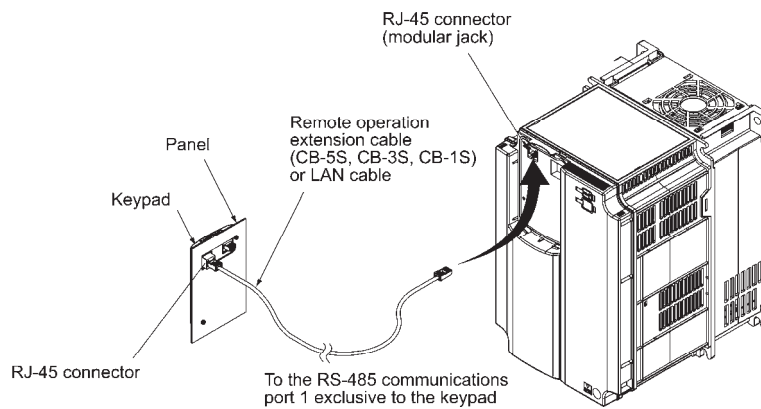

Figure 2.3-8 Connecting the Keypad to the Inverter with Remote Operation Extension Cable or an Off-the-shelf LAN Cable
(3) Using a remote operation extension cable or a LAN cable, interconnect the keypad and the inverter (insert one end of the cable into the RS-485 port with RJ-45 connector on the keypad and the other end into that on the inverter) (See Figure 2.3-8).